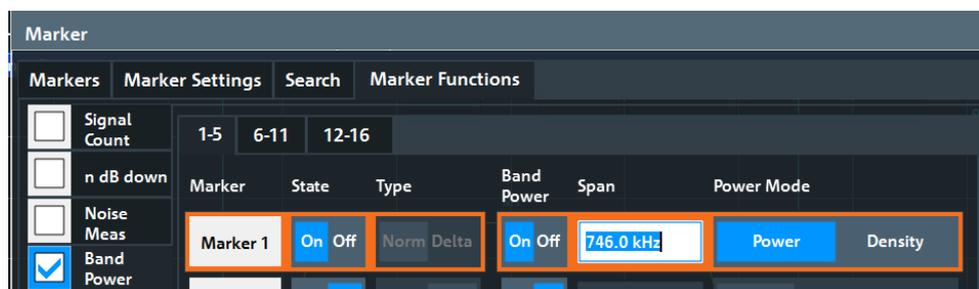

Figure 2-6: Entering channel bandwidth for emission output power measurement
18. Press the *Select Marker Function* menu key and select the *Band Power* function. In the *Span* field, enter the value noted down for OBW_{SF12} (Figure 2-6) and close the window.